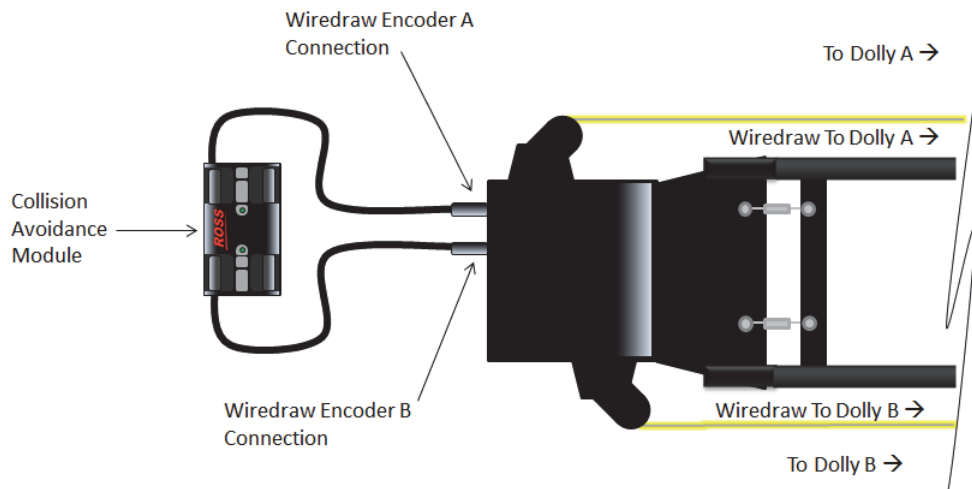

Figure 3.14 Wiredraw encoder connections for 15m wiredraws
2. Connect a CAN bus cable to the wiredraw encoder (**Figure 3.14**).